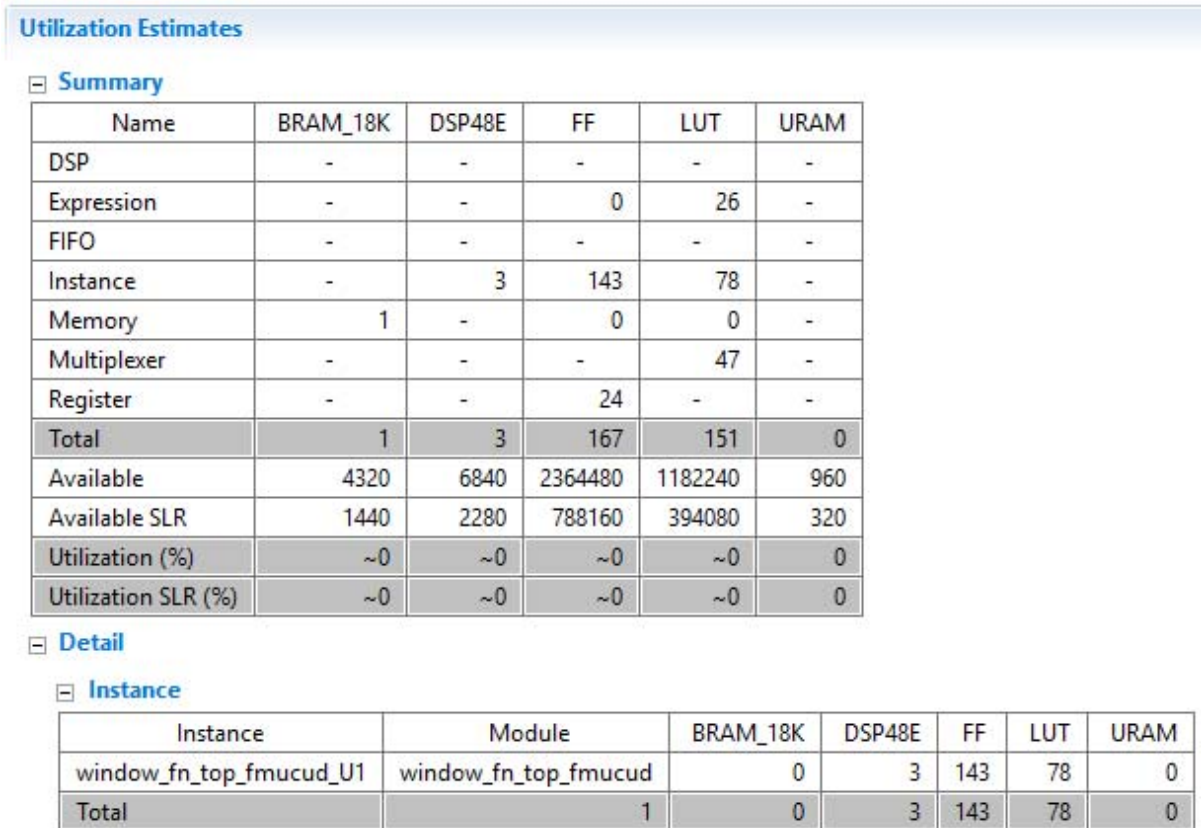

Figure 5-6: Area Details for Floating Point Design
2. Scroll down the report and expand the Instances in the Details section of the Utilization Estimates (Figure 5-6).